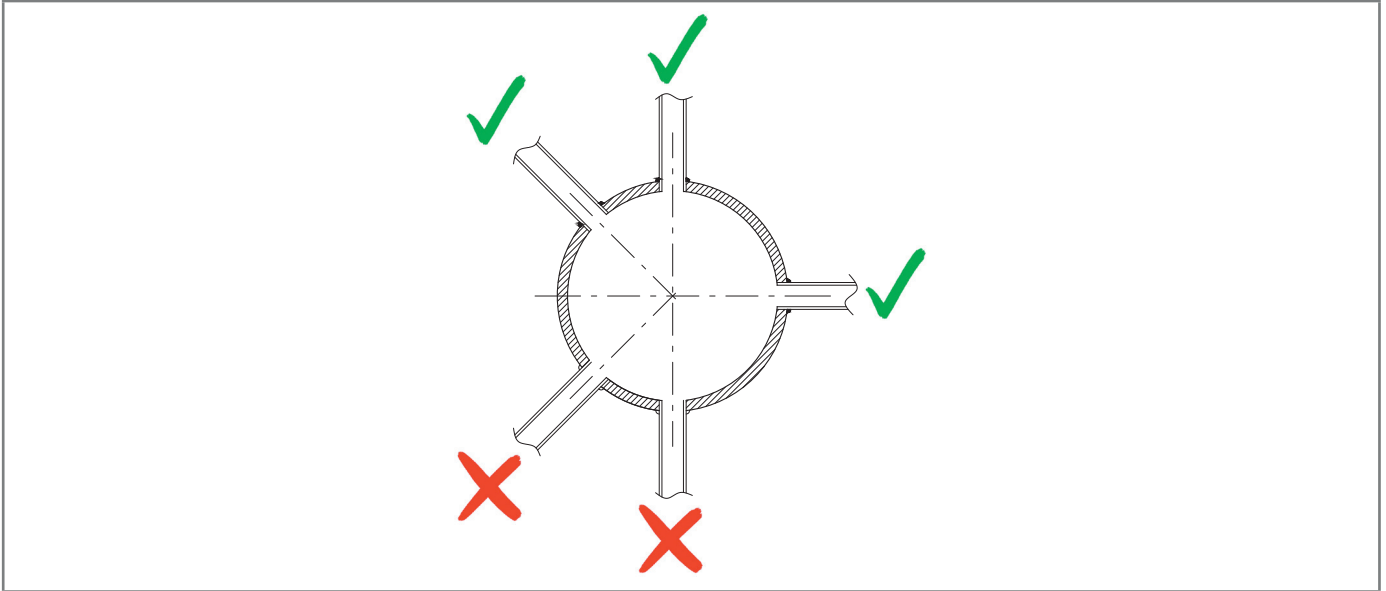

Fig. 6.22.
- the pneumatic connection fittings are always welded to the top or at most 90° on the axis of the pipe itself (refer to Fig. 6.22);